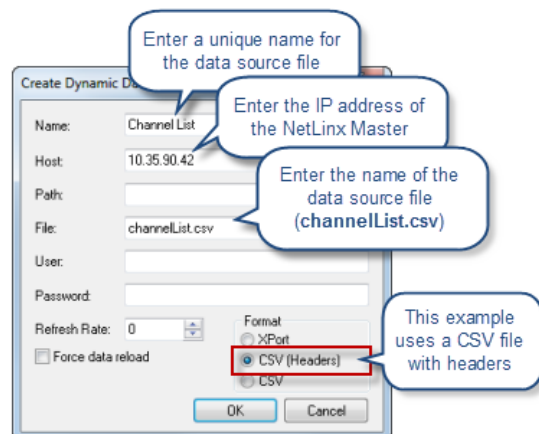

FIG. 140 Create Dynamic Data Source dialog with Example data (ChanelList.csv)
1. Open the Resource Manager to the *Dynamic Data Sources* tab and click **New** to open the *Create Dynamic Data Source* dialog (FIG. 140):